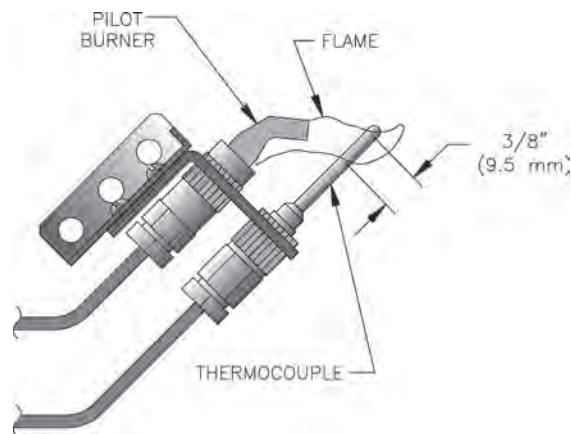

Figure 9: Pilot Burner Flame, Continuous Ignition System, Honeywell Q350 Pilot
- a. Continuous Ignition (Standing Pilot), Models _IN3__C through _IN7__C. See Figure 9. Pilot burner produces a single flame. The flame should be steady, medium hard blue enveloping 3/8 to 1/2 inch of thermocouple. If flame is yellow and lazy, follow instructions TO TURN OFF GAS TO APPLIANCE (see Figure 4) and contact a qualified service agency.